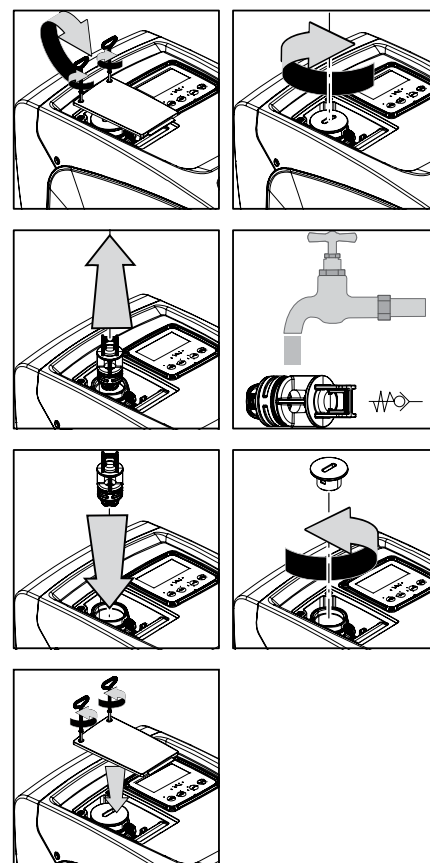

Figure 22
1. remove the access door to the special maintenance compartment (Fig.1 Face F) disengaging the 2 fixing screws with the accessory tool. It is advisable not to remove the screws completely, so that you can use them to extract the door. Take care not to drop the screws inside the system once you have removed the door (Fig.22);
2. using a screwdriver, remove the 1"1/4 cap so as to access the non-return valve (Fig.22);
3. using pliers, extract the cartridge of the non-return valve without rotating it, gripping it by the jumper provided for the purpose (Fig.22): the operation may require a certain effort;
5. put the complete cartridge back in its seat: the operation requires the force necessary to compress the 2 O-Rings (Fig.22);
6. Screw on the 1"1/4 cap until it is snug: if the cartridge has not been pushed correctly in place, screwing on the cap will complete its positioning (Fig.22);
7. reposition the door and tighten the 2 screws (Fig.22).